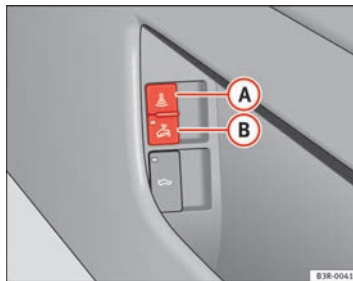

Fig. 78 Interior monitoring switch
- Open the door and pull out the switch (with the symbol) to one side of the storage compartment, in the driver door ⇒ Fig. 78.
⇒ Fig. 78.